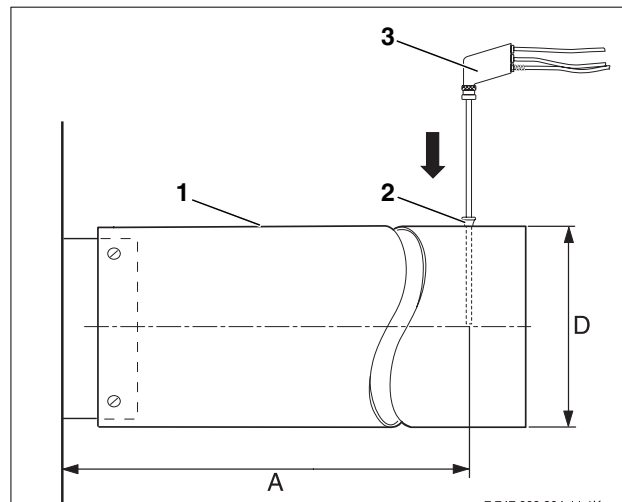

Fig. 13 Recording measured values
The measurements are taken in the exhaust pipe (Fig. 13).
The measurement port (coupling; Fig. 13, **Item 2**) should be located distance A (approx.  $2 \times$  the diameter of exhaust pipe D) from the boiler rear section (Fig. 13). If the exhaust system is connected to an elbow immediately after the boiler, the measurement must be made before the elbow.
- Insert combustion analyzer probe (Fig. 13, **Item 4**) in flue gas pipe and position near center (highest temperature).